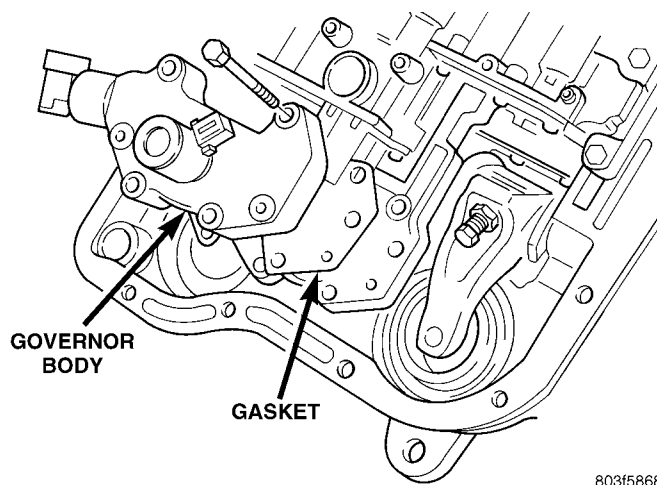

Fig. 43 Governor Body And Gasket
- (4) Remove retainer plate, governor body and gasket from transfer plate (Fig. 43).
- (5) Disconnect wires from governor pressure sensor, if not done previously.